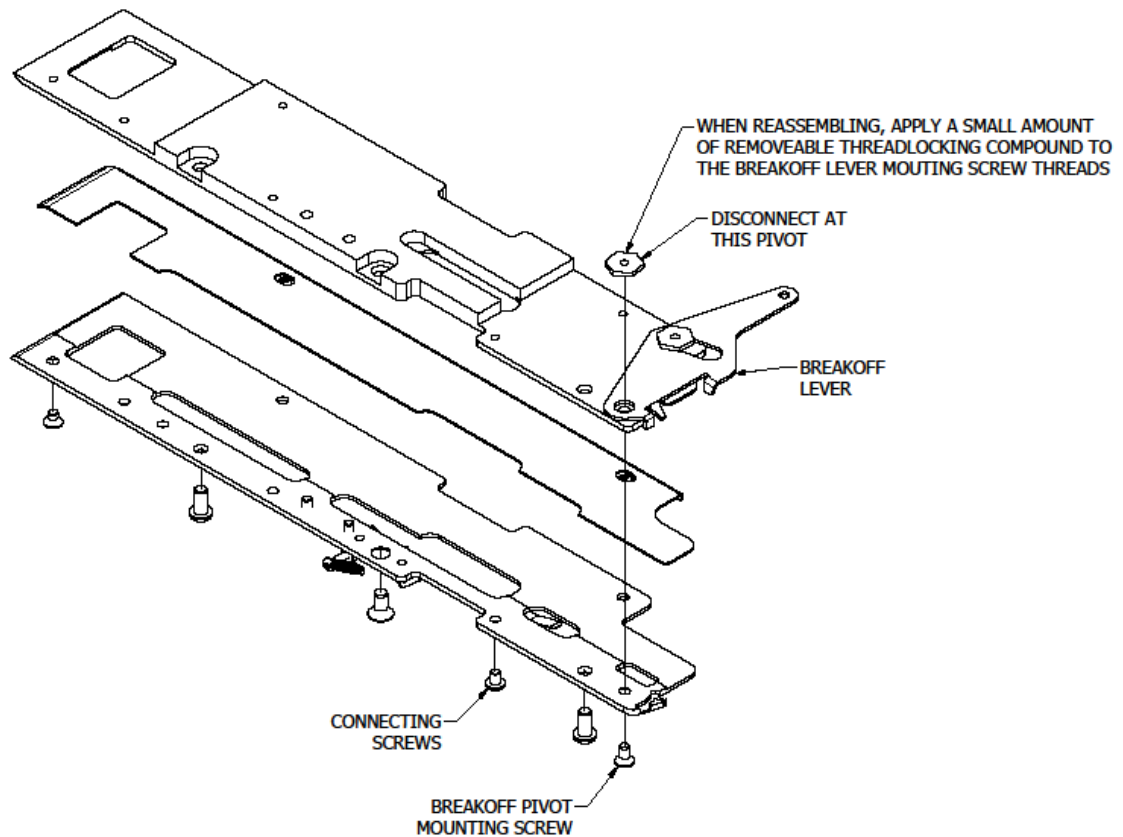

Figure 4.5
*Reference Figure 4.5*
- b) Disconnect the breakoff lever removing the breakoff links (2) from the track at the pivot side of the breakoff lever.
- b) Attach breakoff lever replacing the breakoff links (2) to track at the pivot side of the breakoff lever.